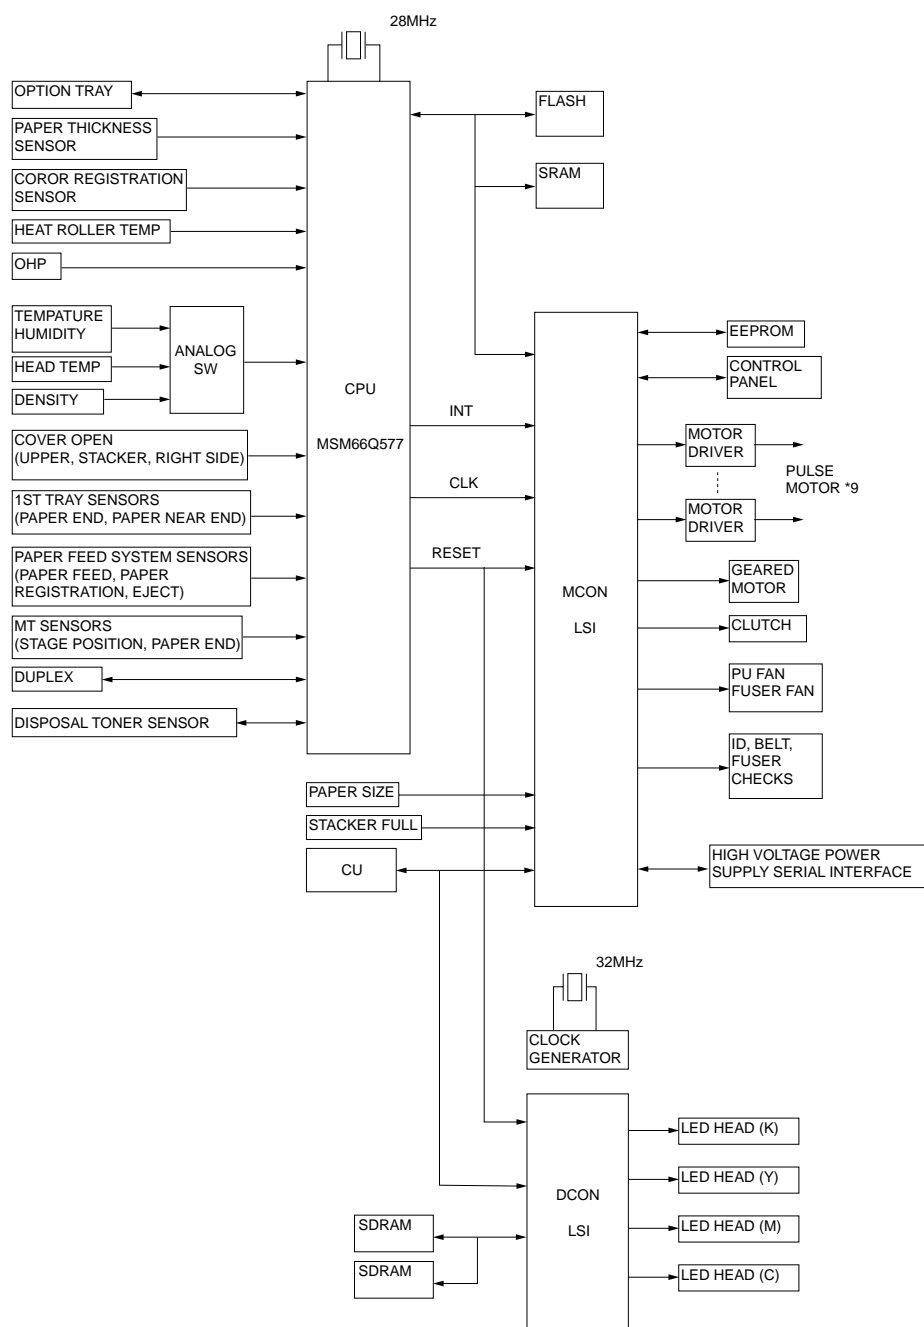

Figure 2-3
The engine control block (PU) is controlled by the engine controller board (K71 PWB) which consists of a CPU (MSM66Q577), general LSI chip, flash ROM, EEPROM, pulse motor drivers and a video memory (see Figure 2-3).
(1) CPU